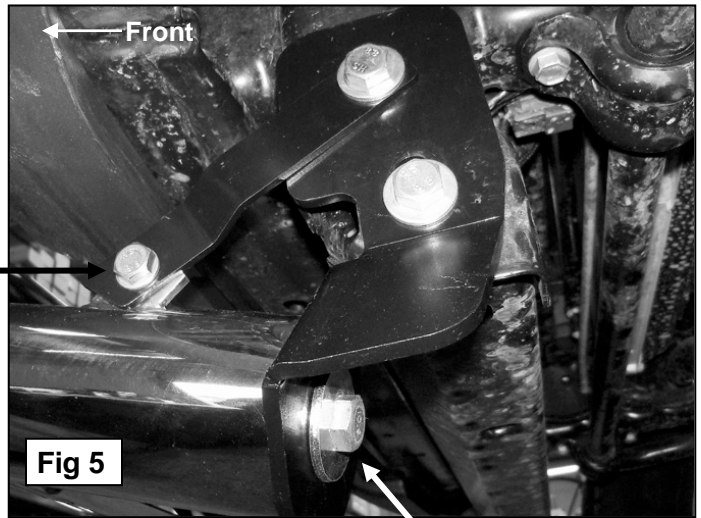

Fig 5
- With help, position the Bull Bar up to the Mounting Brackets. Use the included (2) 1/2" x 2" Hex Bolts, (2) 1/2" Large Flat Washers and 1/2" Lock Washers to attach the Bull Bar to the Mounting brackets, **(Figure 5)**. Snug but do not tighten at this time.
7. Bolt the forward end of the Support Brackets onto the outside of the tabs on the Bull Bar with the included (2) 10mm x 25mm Hex Bolts, (2) 10mm Lock Washers, (4) 10mm Flat Washers and (2) 10mm Hex Nuts. Snug but do not tighten hardware at this time.